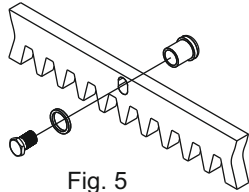

Fig. 5
5.2. Fix to each gear rack element the support pawls using the appropriate lock screws, taking care to place them in the upper part of the hole (Fig. 5);